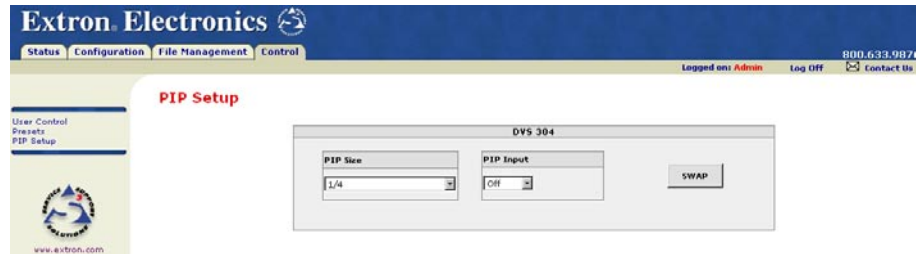

Figure 4-10 — PIP Setup page
The PIP Setup page (located under the Control tab, figure 4-10), allows easy, remote access to the picture in picture option of the DVS 304 series.
3. Click the PIP Setup link on the left side of the page. The PIP Setup page appears (figure 4-10).
6. Once the PIP window is selected, its picture control settings are available on the PIP Setup page. (figure 4-10).